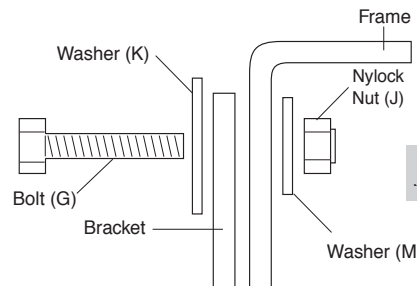

fig. 7
The Passenger Side will use bolt (G), large washer (K) on the outside of the frame, washer (M) on the inside of the frame, and nut (J) to attach the upper bracket to the existing hole on the side of the frame (Fig. 7).